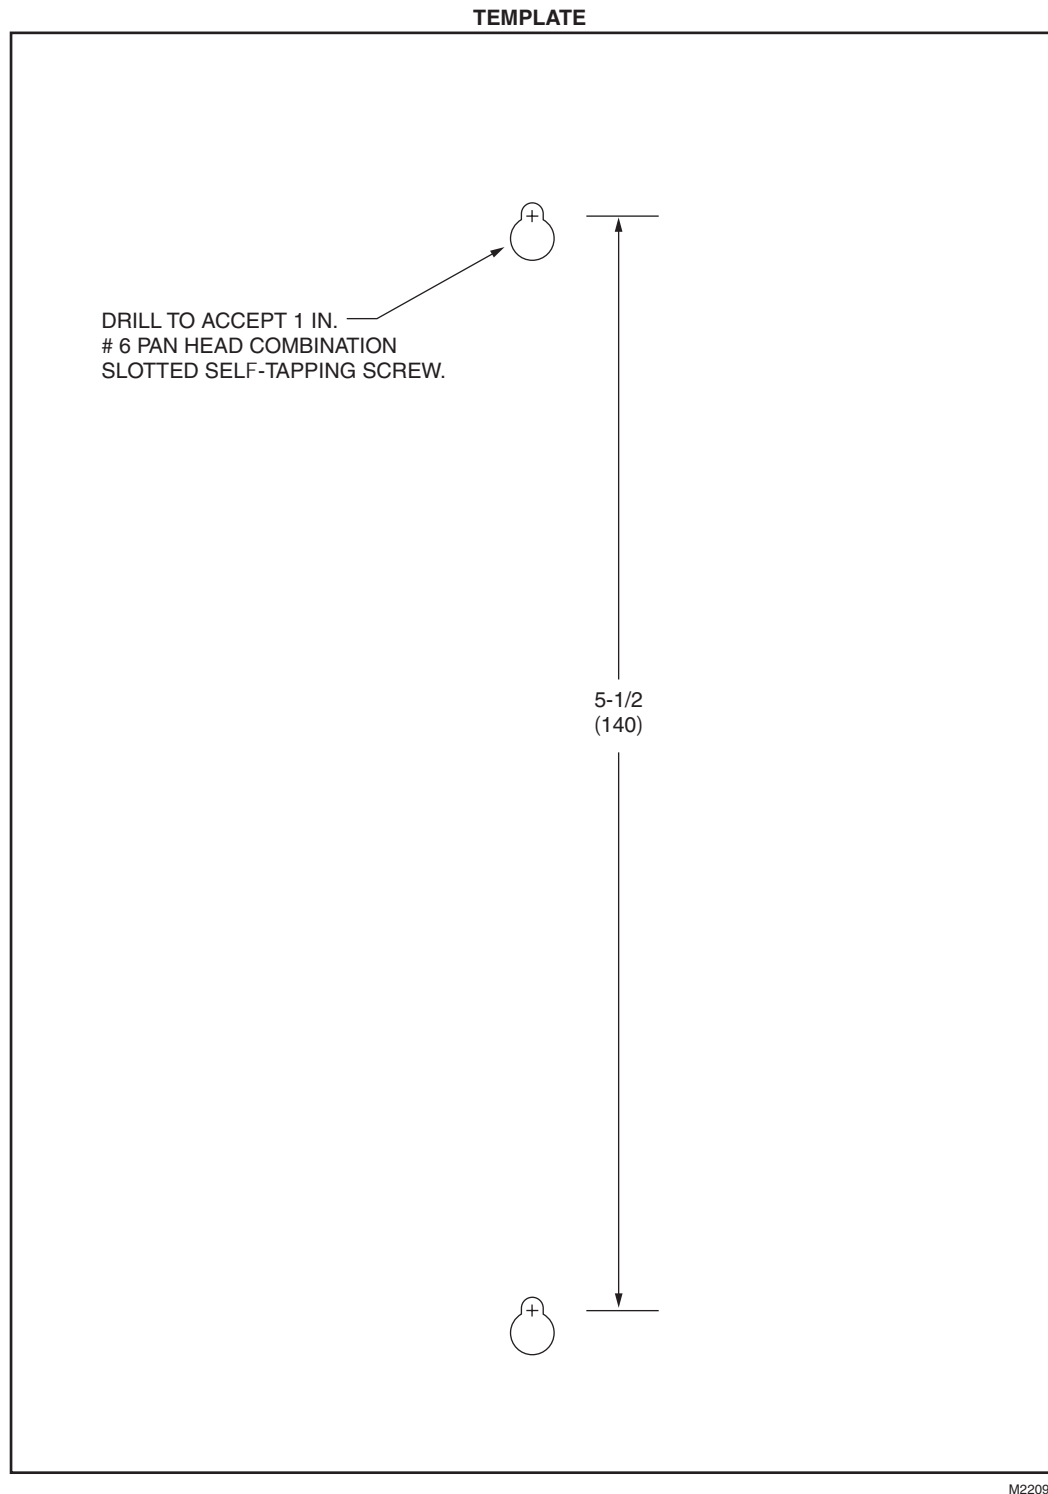

Fig. 8. RapidLink Dial-up Network Adapter - wall mounting template.
1. Tape template (Fig. 8) to the wall to ensure proper screw spacing.